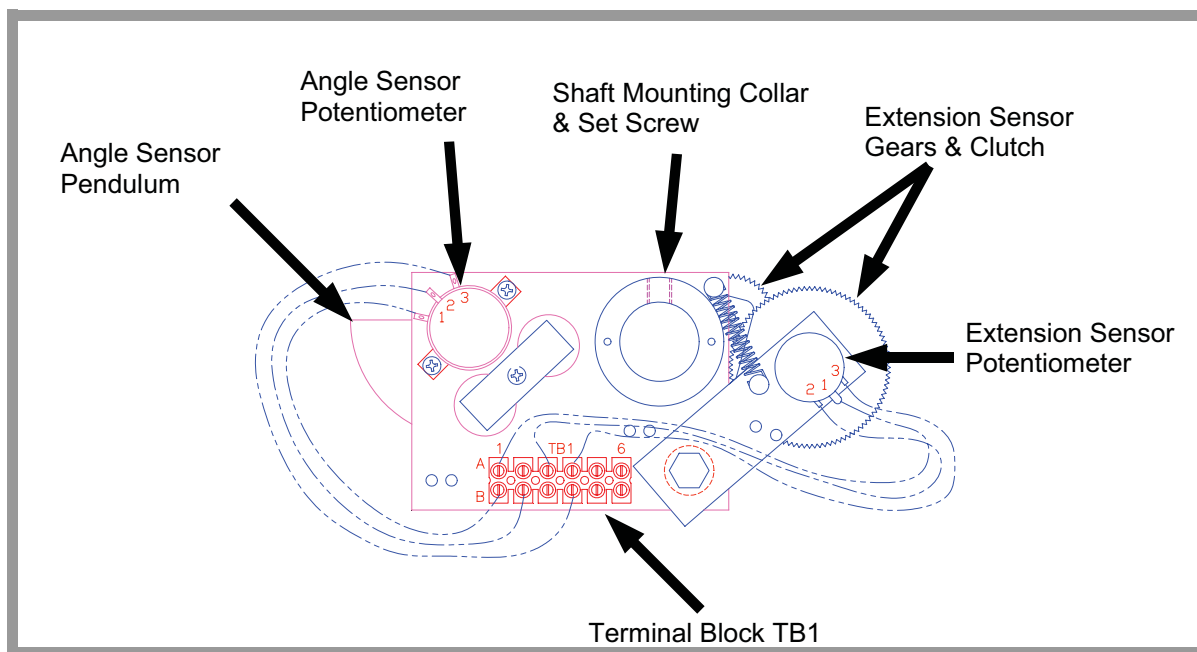

FIGURE 6.10 SENSOR BASEPLATE ASSEMBLY
3. Tighten the set-screw and release the gears allowing them to mesh with the extension reel spline. Route the wires to the terminal block and hook up the wires, as indicated below. Refer to Figure 6.10.